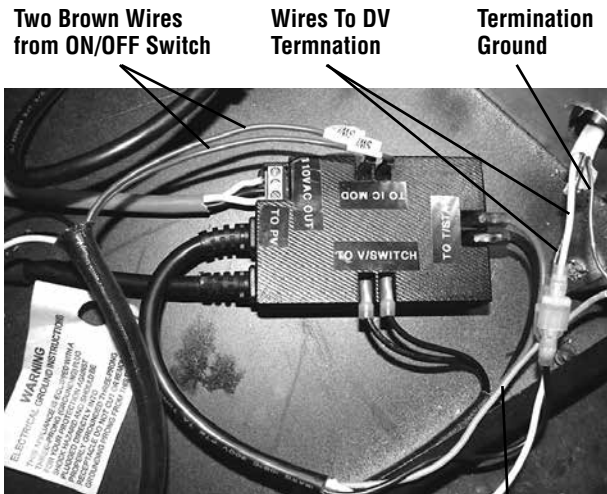

Figure 17
- Disconnect the two brown wires from the ON/OFF switch, and reconnect them to the **control module** [#4] (**Figure 17**).
- 9A.7. Connect one end of the **four-wire harness** [#2] to the **power vent control module** [#4] (**Figure 17**) — RED to T-STAT; BLACK to V-SWITCH.